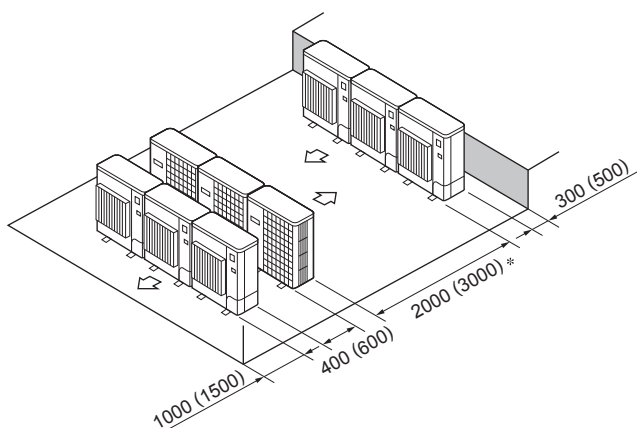

Fig. 1-16
- ⑥ Multiple parallel unit arrangement (Fig. 1-16)